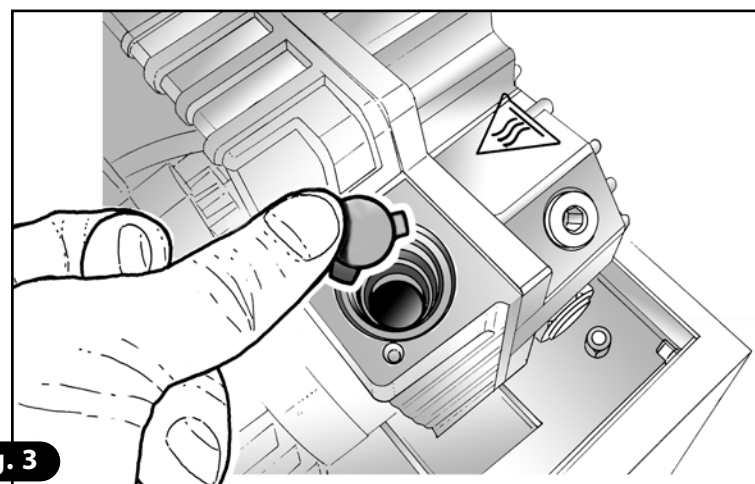

**Fig. 2**
- Unscrew the screws used to secure the sealing bar to the support (**Fig. 2**).
- 4) Remove first the rubber shutter, then the steel one. Check the condition of the entire accessible intake section, and if necessary clean it with a cloth soaked in alcohol (**Fig. 2**).